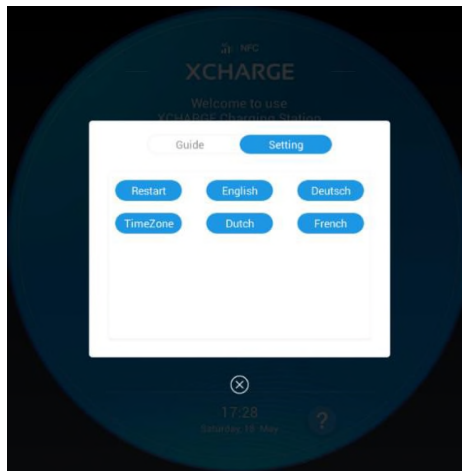

Figure 5.3.3 Setting page
- Language button: press question mark in the bottom right corner (just available for touch screen) and then the different languages can be selected shown below in Figure 5.3.3: